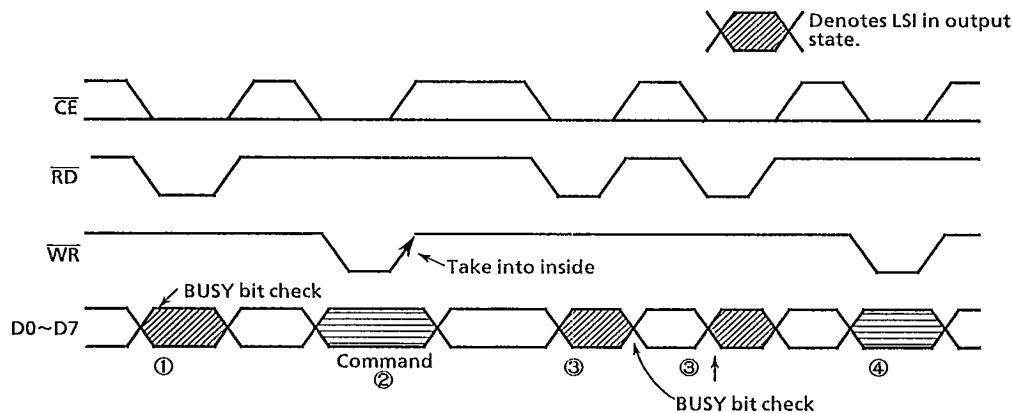

Fig.5.6 How to write command
As shown Fig. 5.6, using ① \overline{RD} pulse, read data from LSI and check BUSY bit. If not in ② BUSY state, after setting up command data in D0~D7, write a command using \overline{WR} pulse. In case of such 3 byte commands as ADLD1, ADLD2, etc., after rechecking BUSY bit by ③ \overline{RD} pulse, write the ④ 2nd and 3rd byte bits. After the 1st and 2nd byte bits of a 3 byte command, other command bits cannot be written.